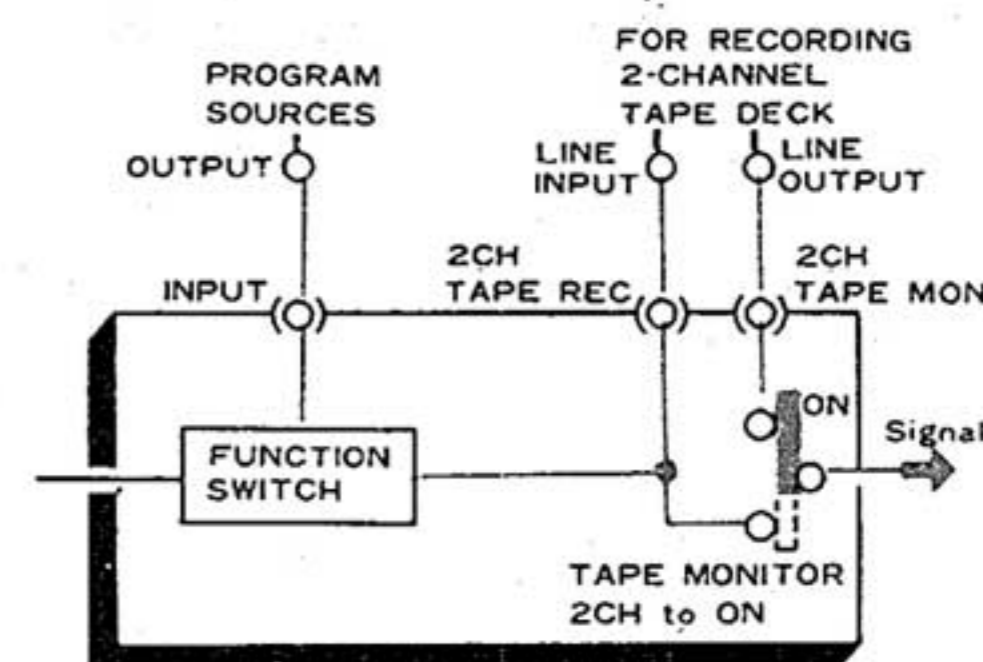

Fig. 21
**2-channel Tape Recording:** The program source selected by the FUNCTION switch appears at the 2CH TAPE REC terminals on the rear panel and is equal to the input signal(Fig. 21).